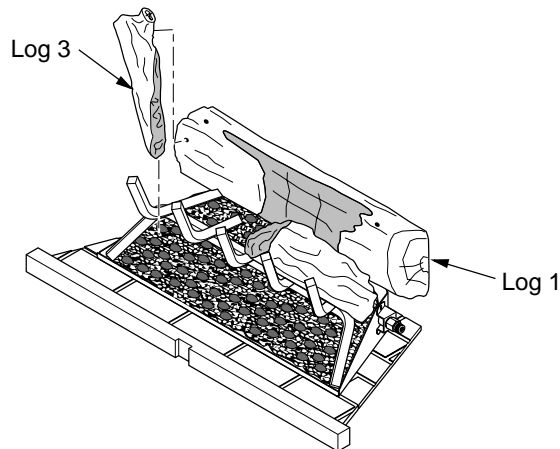

Figure 26 - Installing Log 3
3. Insert peg on back of log 3 into hole on left front of log 1 (see Figure 26). Log 3 will rest between first two grate fingers on left of grate assembly (see Figure 26).